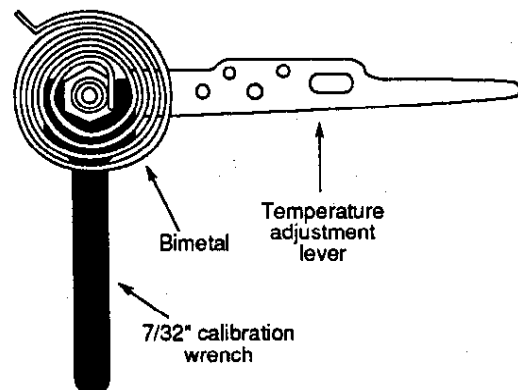

Figure 8. Calibrating thermostat
3. Remove thermostat cover. Slip 7/32" wrench onto hex nut beneath bimetal. While holding temperature adjustment lever stationary, turn hex nut clockwise until mercury shifts to the right end of the tube (see fig. 8).
7. Slip 7/32" wrench onto hex nut. While holding temperature adjustment lever stationary, turn hex nut counterclockwise until mercury just barely shifts to the left end of the tube (see fig. 8).